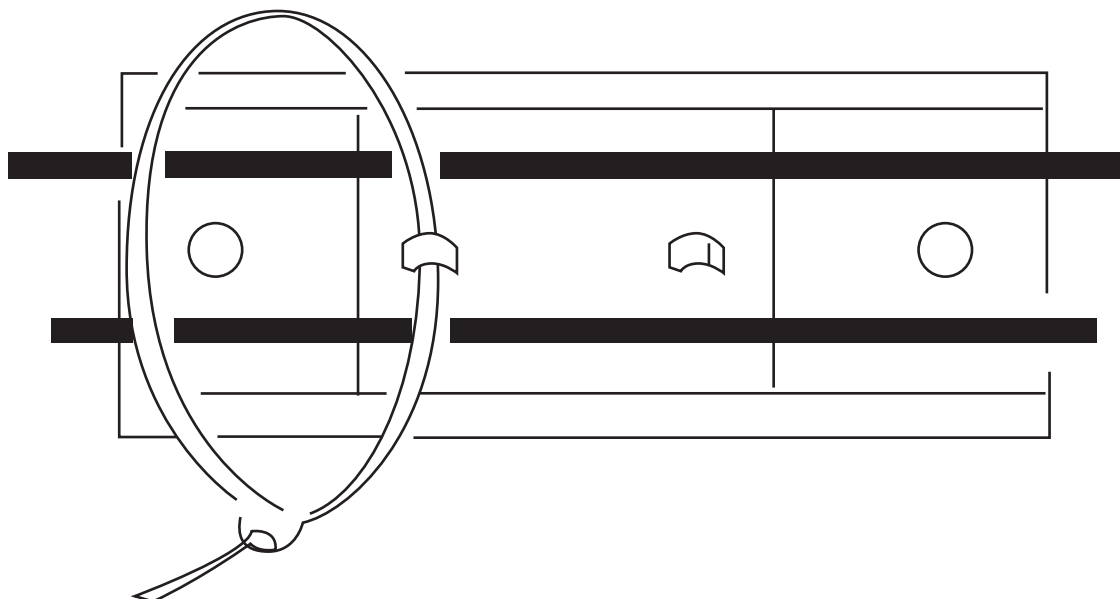

Figure 7.
- Once the clips have been installed, use one tie wrap to secure cables to the clip. (Figure 7)